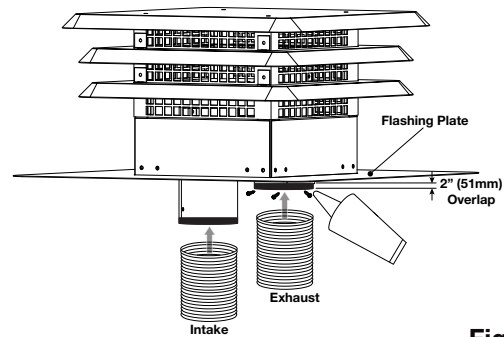

Fig. 2-1
- 1. OUTSIDE:** Slip the one end of a liner a minimum of 2" (51mm) over the sleeve of the air terminal. Secure using 3 screws. Then seal the joint and screw heads with high temperature sealant. Repeat with the other liner (**Fig. 2-1**)